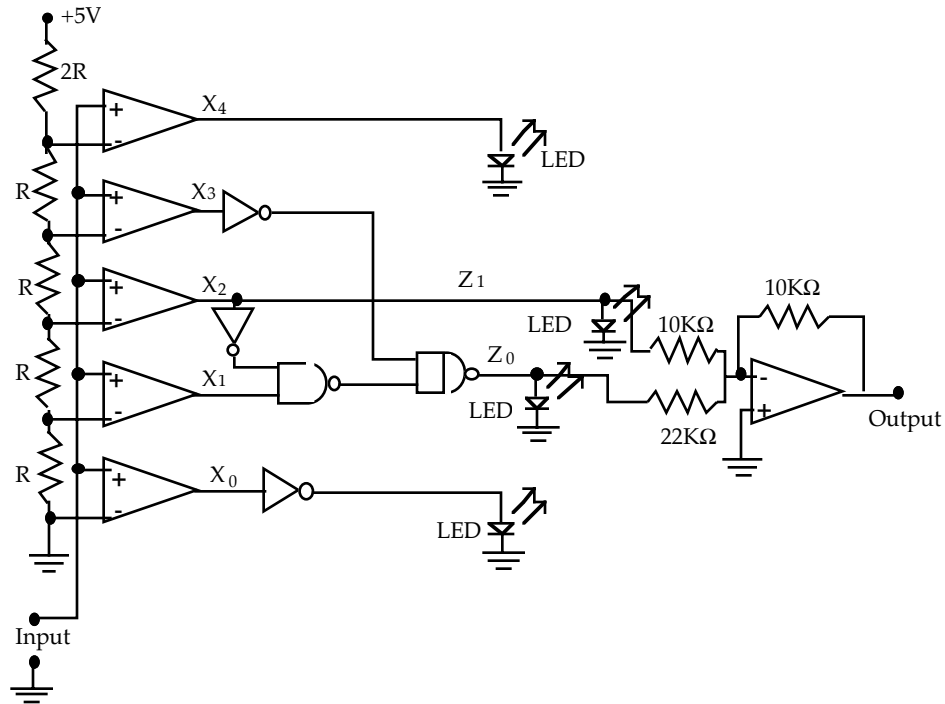

Figure 3. A/D, D/A demonstration circuit.
There are various approaches to the implementation of an A/D converter. One of these makes use of a set of comparators whose inputs are referenced to the quantized voltage levels. This is the fastest type of A/D converter available and is often called a "flash" converter. To demonstrate the quantization effect we will again use a Electronics Workbench simulation. (It's a bit complicated to build and test in one lab period.) The fabricated circuit consists, in part, of a 3-bit, comparator-based A/D converter, complete with a digital display. The output of the converter is connected to the input of an op amp-based D/A converter whose output can, in turn, be displayed on a scope or a DMM. The complete simulation circuit is shown in Figure 3.
1. Complete the truth table for the A/D section of the circuit in Figure 3. You can use the supplied Electronics Workbench simulation for this — you do not need to build the circuit. Record your results in Data Table 1.
Your final objective is to use the EWB simulation to observe and understand the operation of the A/D and D/A converters and the quantization effect that is produced by the A/D converter. The circuit diagram of the simulated circuit is shown in Figure 3. Note that the EWB simulation may take a long time to converge for some of the input values.